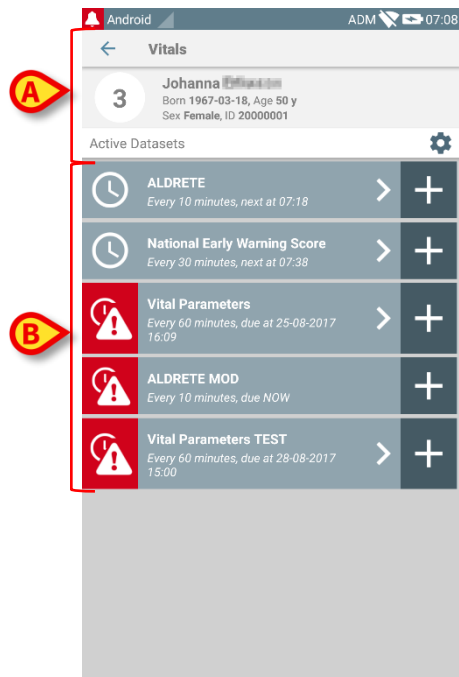

Fig 60
- Touch one tile to access the list of datasets enabled for the corresponding patient (Fig 60).
The datasets list screen is formed of two areas: a heading area (Fig 60 **A**) and the list of datasets (Fig 60 **B**).